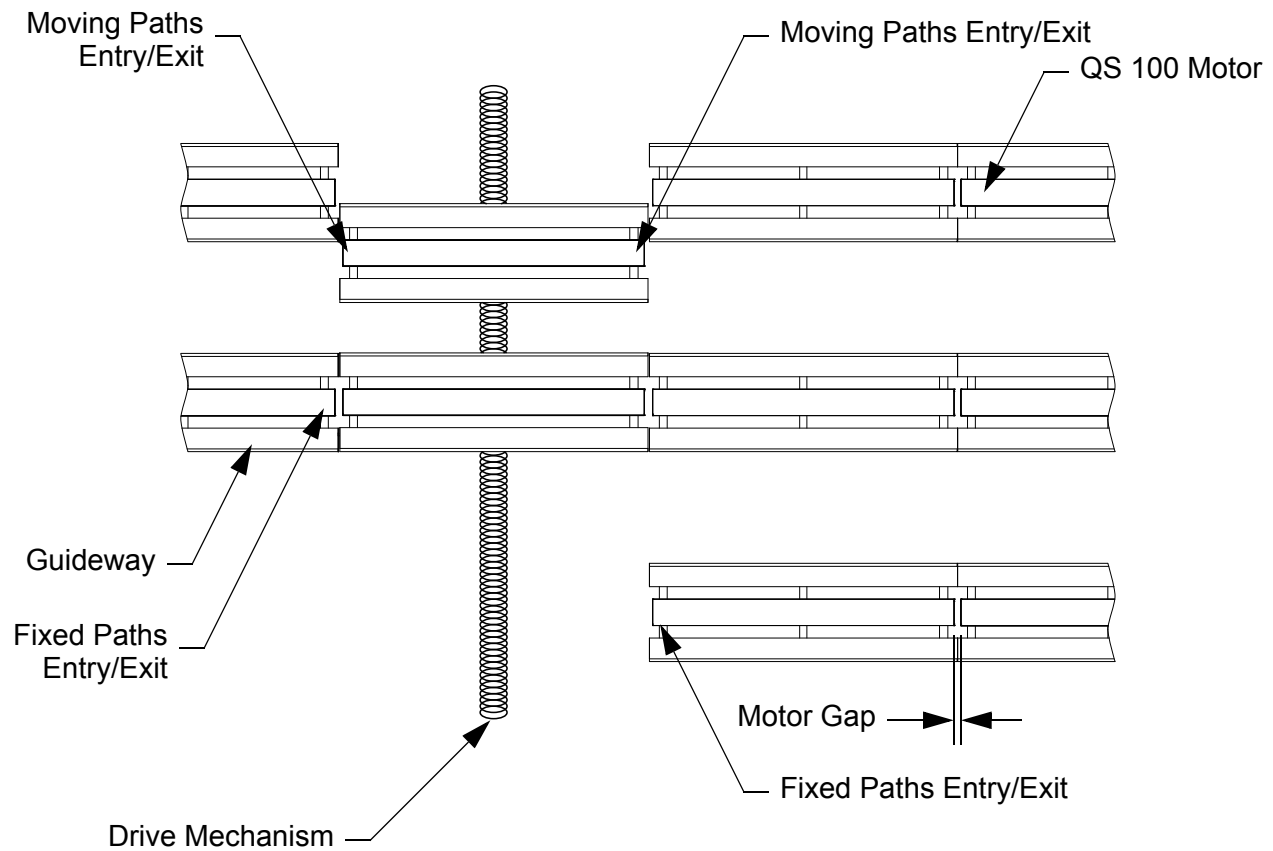

Figure 3-29: Moving Path Configuration
- Provides multiple entries and exits (maximum of 12). The example that is shown in Figure 3-29 uses two Moving Path nodes, one for entry onto the moving paths and one for exit from the moving paths.